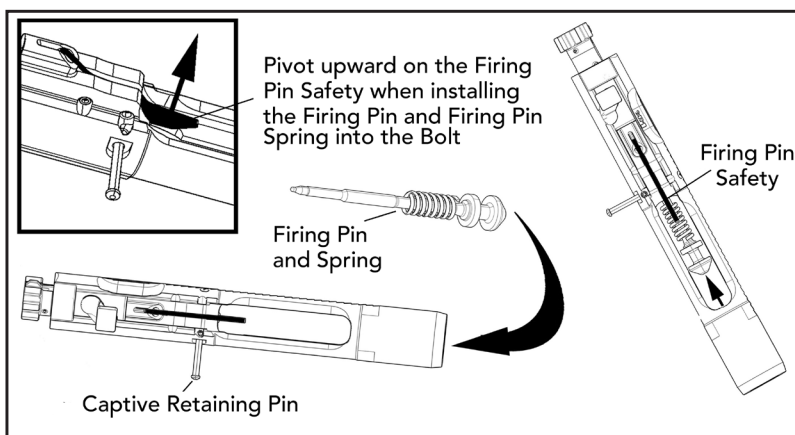

Fig. 62 – Installing the Firing Pin
- c. Ensure that the captive firing pin retaining pin is drifted completely out to the left hand side of the bolt carrier. Insert the firing pin spring onto the firing pin, pivot upwards on the spring loaded firing pin safety, and insert the firing pin and spring into the bolt carrier's firing pin tunnel until the firing pin reaches its limit of forward travel (Fig. 62).